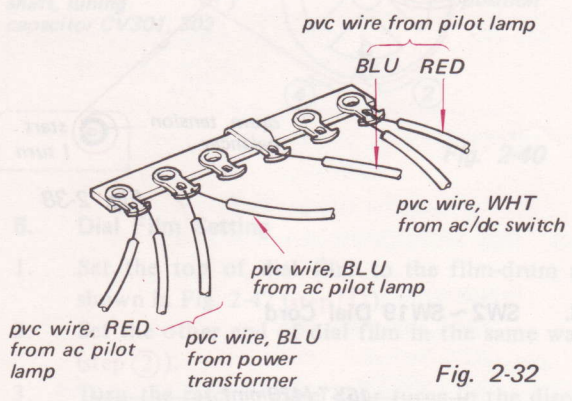

Fig. 2-32
1. Unsolder all the wires on the terminal strip shown in Fig. 2-32.